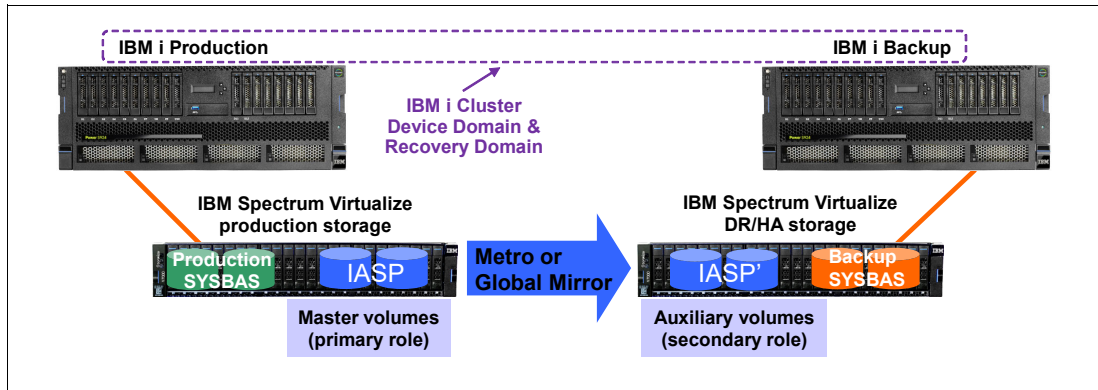

Figure A-4 IBM i IASP replication with IBM Spectrum Virtualize
IASP based replication for IBM i is used for a high availability (HA) solution where an IBM i production and an IBM i backup node are configured in an IBM i cluster and the IASP that is replicated by IBM Spectrum Virtualize remote replication is switchable between the two cluster nodes as shown in Figure A-4. In this scenario the IBM i production system and the IBM i backup system each have their own non-replicated SYSBAS volumes and only the IASP volumes are replicated. This solution requires IBM PowerHA® SystemMirror® for i Enterprise Edition (5770-HAS *BASE and option 1) for managing both the IBM i cluster node switch- and failovers as well as the IBM Spectrum Virtualize storage remote replication switching.